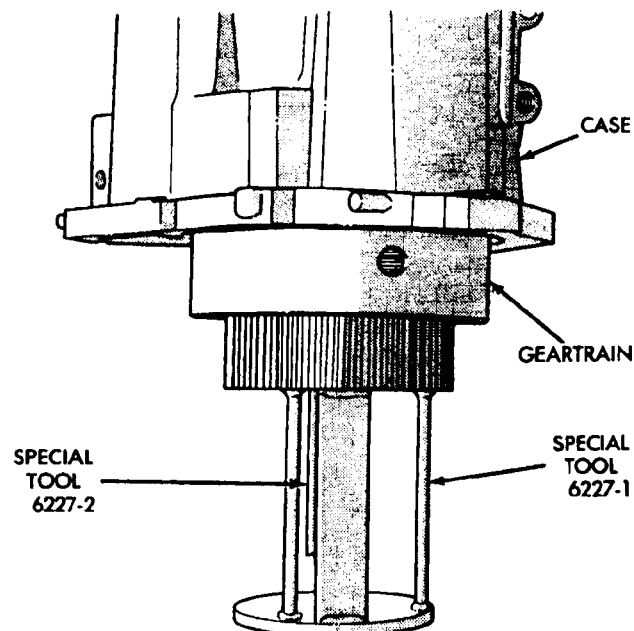

Fig. 75 Positioning Overdrive Case On Geartrain
(19) Support geartrain on Tool 6227-1 (Fig. 75). Be sure tool is securely seated in clutch hub.
(20) Install overdrive unit case over geartrain (Fig. 75).
(21) Expand front bearing locating ring with snap ring pliers. Then slide case downward until locating ring locks in bearing groove and release snap ring.